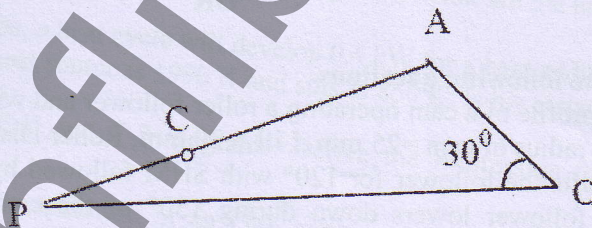

Fig. 2
- (A) Following data relates to reciprocating steam engine as shown in Fig. 2. [07]